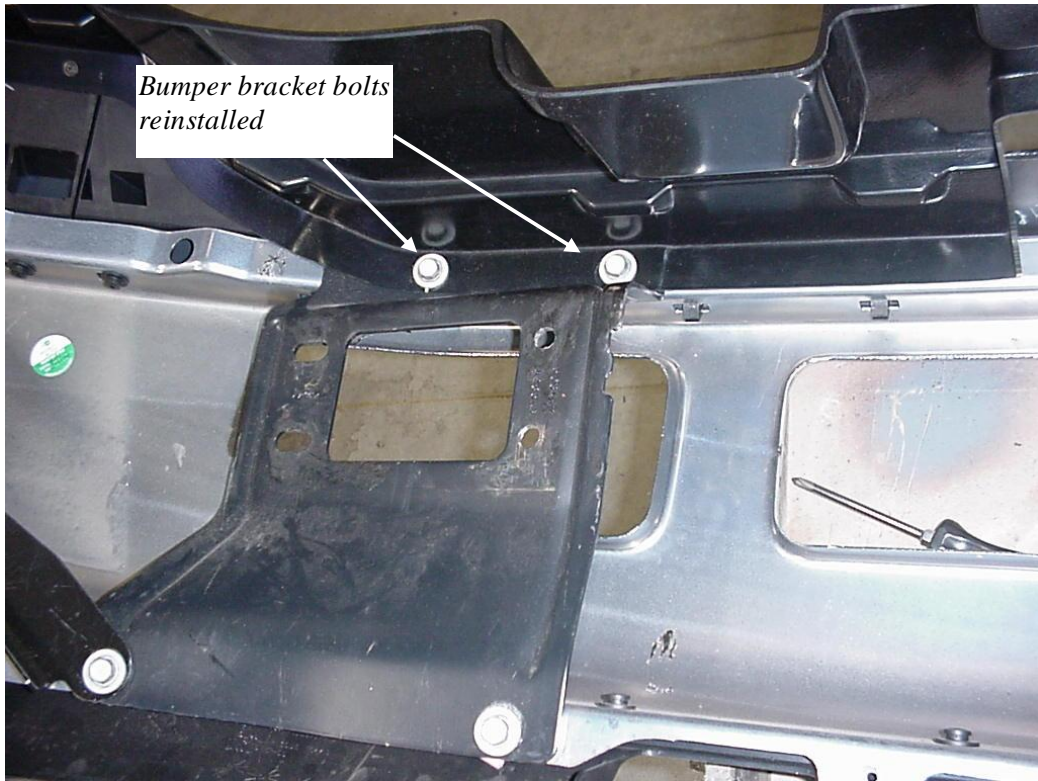

Figure 3 LH Skirt in place, bumper bracket bolts reinstalled
4. Place the Skirts against the bumper brackets and reinstall the bolts. Align the outboard corners of the skirt and bumper, hold the skirt tight against the bumper and tighten the bolts. **Figure 3**